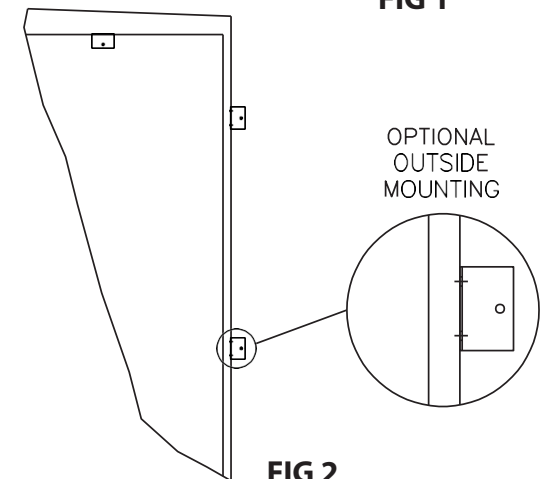

FIG 2
- If there is not enough space, install the Mounting Brackets on the outside of the Frames (Figure 2).